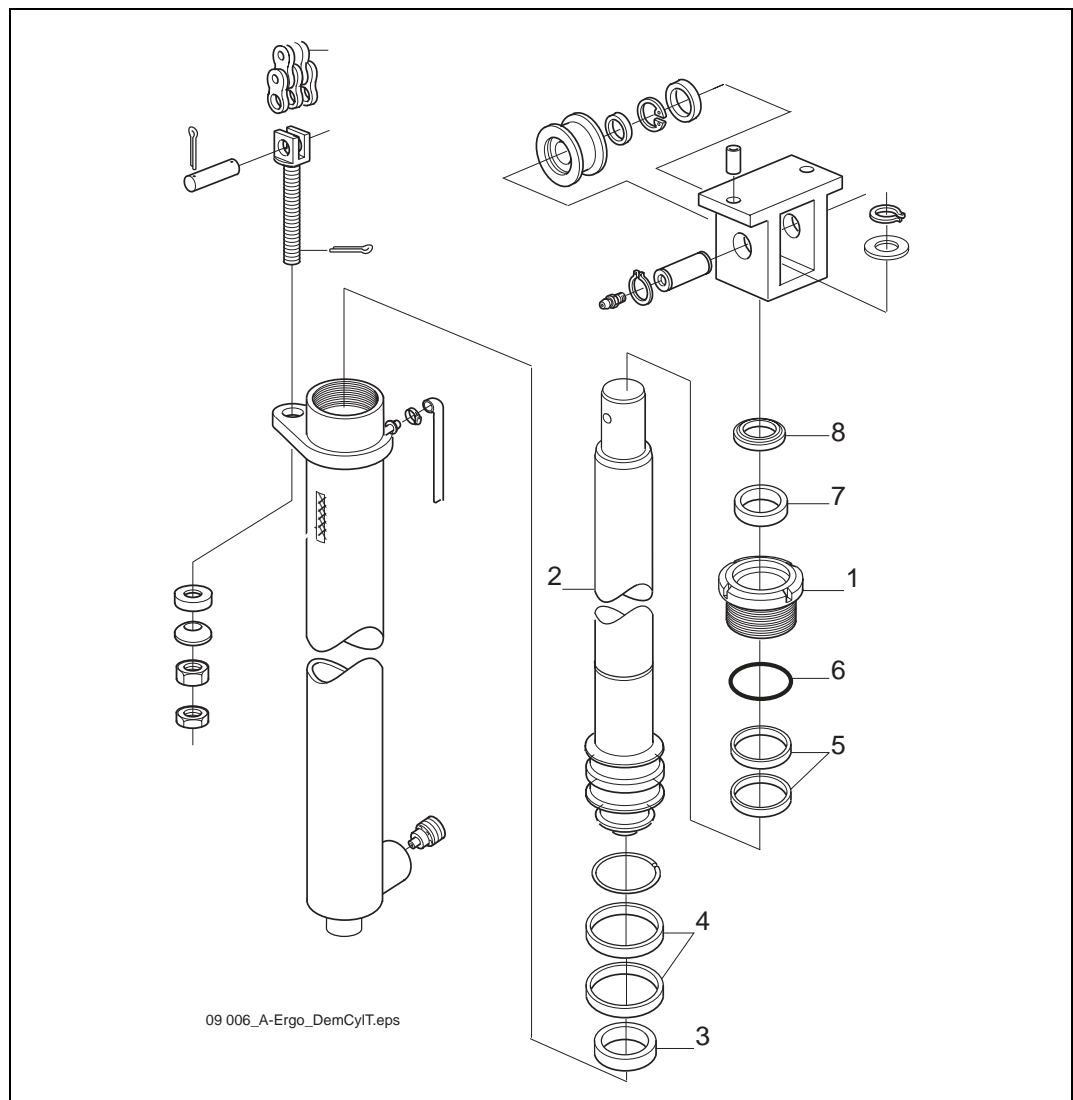

Figure 9.6 Lift cylinder T
2. Loosen and remove the top nut, pos. 1 see Figure 9.6, with a hook spanner.
3. Pull out the piston rod, pos. 2, and place it carefully on the bench to avoid damaging it.
4. Remove the parts, pos. 3, 4, 5, 6, 7 and 8.